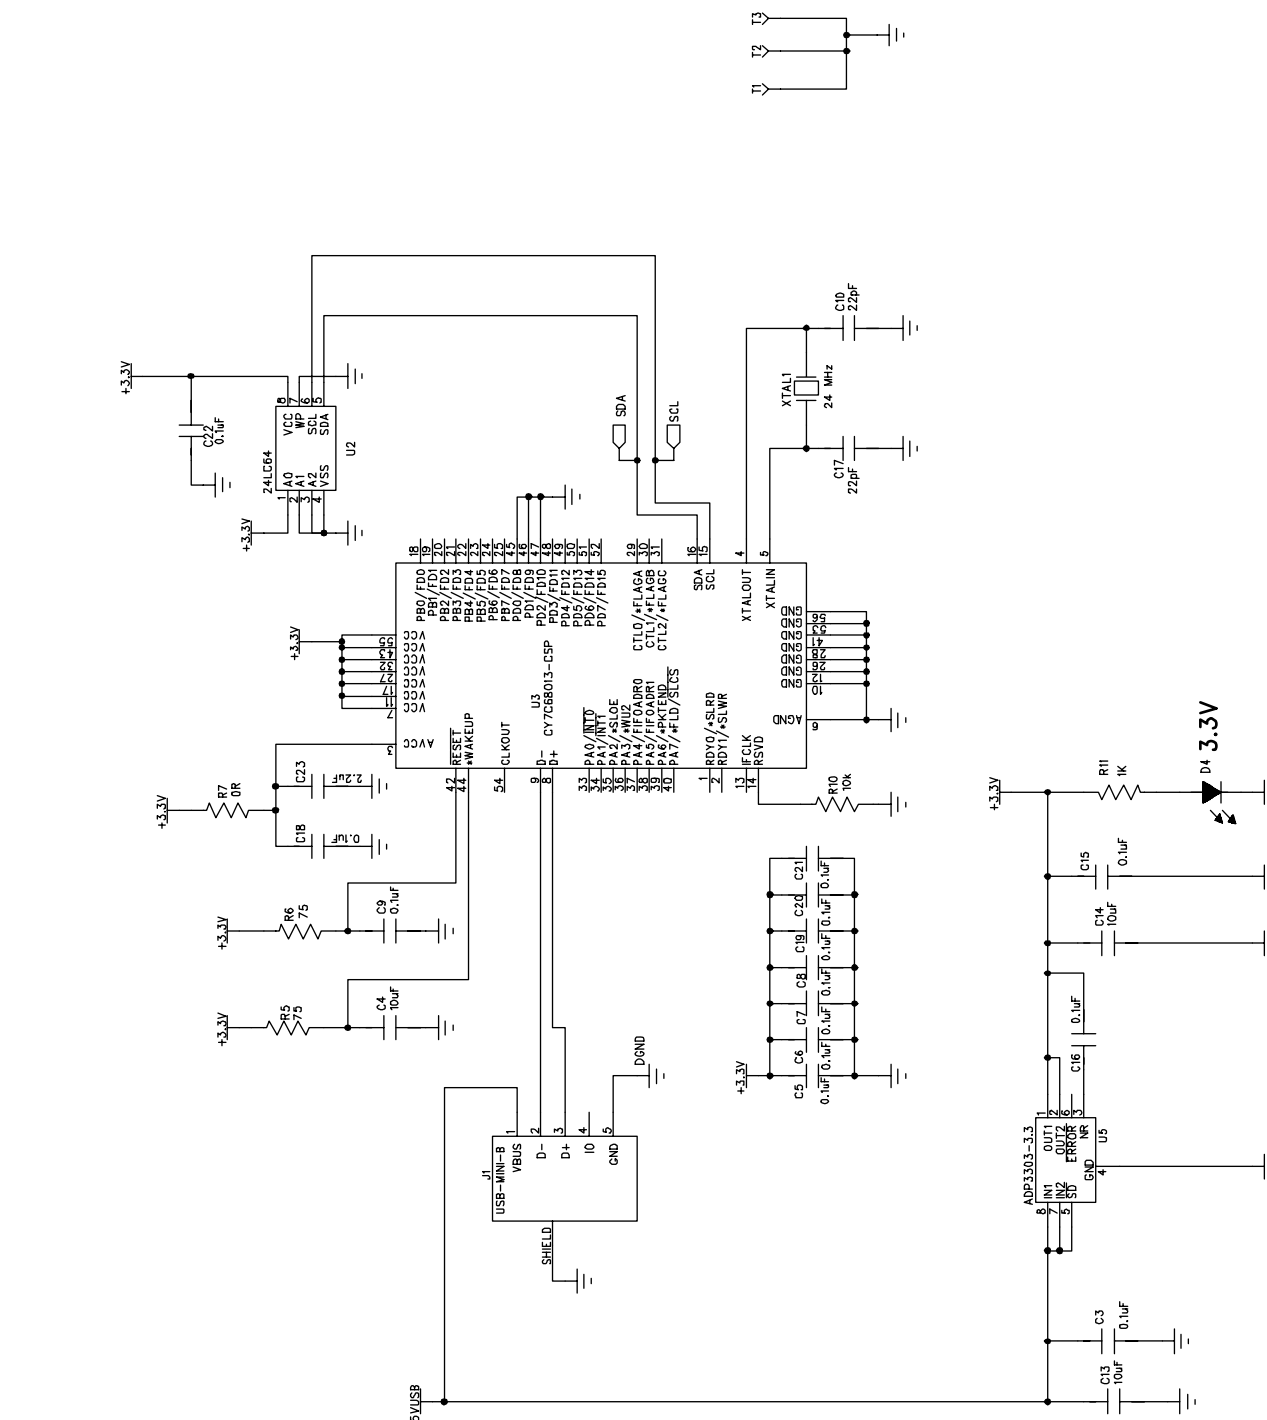

Figure 5. Schematic of USB Controller Circuitry
1. Use the reset button on the board itself (see **RESET** in Figure 5).